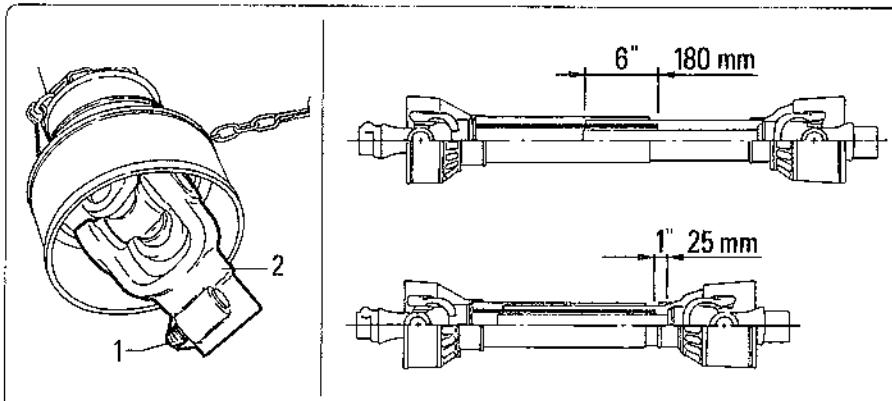

fig. 4.1.3
- Check that the driveline is the correct length fig. 4.1.3.